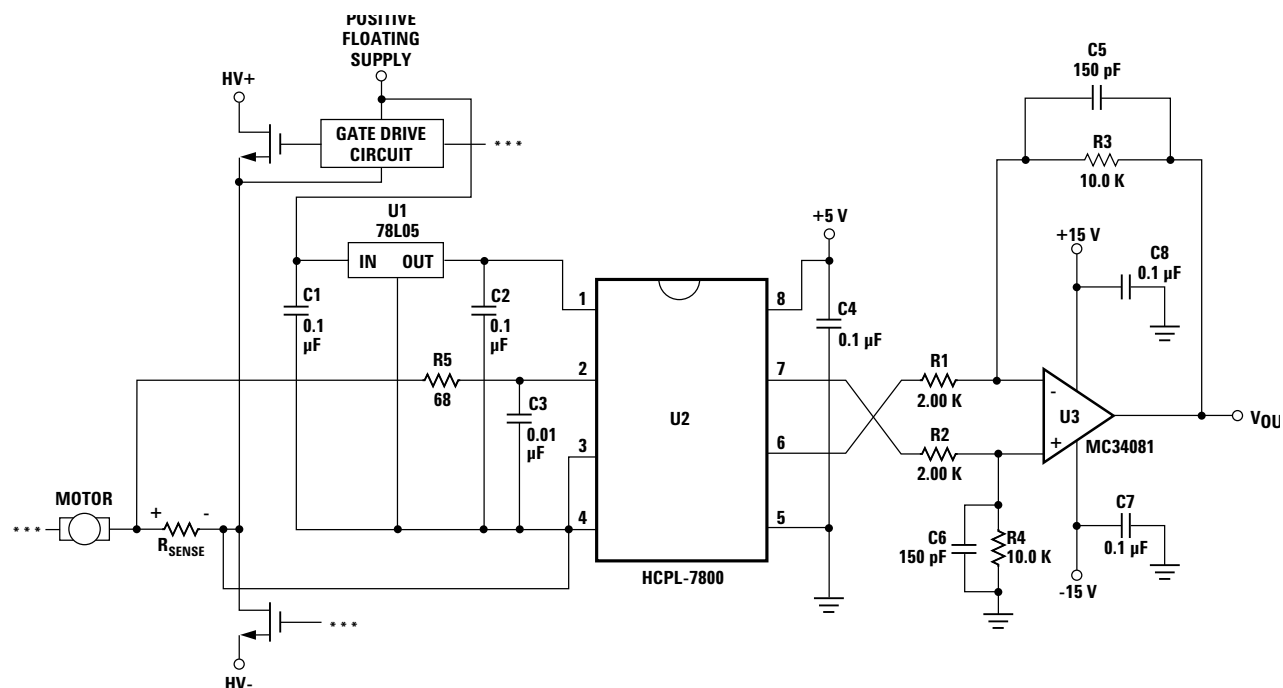

Figure 18: Recommended Application Circuit.
As shown in Figure 18, 0.1 μF bypass capacitors (C1, C2) should be located as close as possible to the pins of the HCPL-7800(A). The bypass capacitors are required because of the high-speed digital nature of the signals inside the HCPL-7800(A). A 0.01 μF bypass capacitor (C3) is also recommended at the input due to the switched-capacitor nature of the input circuit. The input bypass capacitor also forms part of the anti-aliasing filter, which is recommended to prevent high-frequency noise from aliasing down to lower frequencies and interfering with the input signal. The input filter also performs an important reliability function—it reduces transient spikes from ESD events flowing through the current sensing resistor.
The recommended method for connecting the HCPL-7800(A) to the current sensing resistor is shown in Figure 18. V_{IN+} (pin 2 of the HCPL-7800(A)) is connected to the positive terminal of the sense resistor, while V_{IN-} (pin 3) is shorted to GND1 (pin 4), with the power-supply return path functioning as the sense line to the negative terminal of the current sense resistor. This allows a single pair of wires or PC board traces to connect the HCPL-7800(A) circuit to the sense resistor. By referencing the input circuit to the negative side of the sense resistor, any load current induced noise transients on the resistor are seen as a common-mode signal and will not interfere with the current-sense signal. This is important because the large load currents flowing through the motor drive, along with the parasitic inductances inherent in the wiring of the circuit, can generate both noise spikes and offsets that are relatively large compared to the small voltages that are being measured across the current sensing resistor.